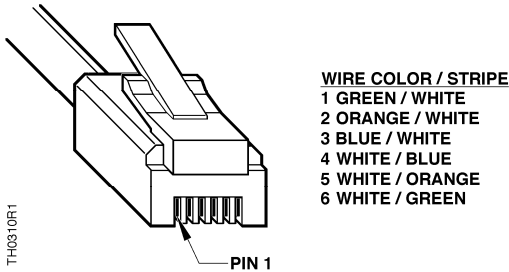

Figure 3. Terminating the RJ-11 Connector.
- If the cable is non-terminated or if the RJ-11 was damaged: Cut the cable, leaving about three inches (75 mm) on the sensor side of the drywall, and attach an RJ-11 connector with an RJ-11 crimping tool. On the RJ-11 connectors, ensure that pin Number 1 connects to the same wire at each end of the cable. See Figure 3.